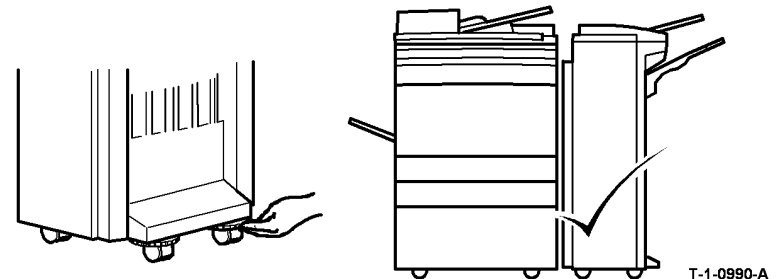

Figure 1 Machine to 2K LCSS alignment
1. Figure 1, turn both right hand wheels in the same direction to adjust the vertical alignment between the 2K LCSS and the machine viewed from the front or rear.